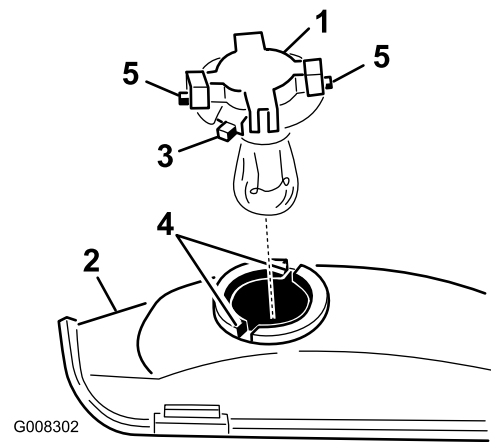

Figure 31
7. Rotate the bulb holder 1/4 turn counterclockwise and remove it from the reflector (Figure 31).